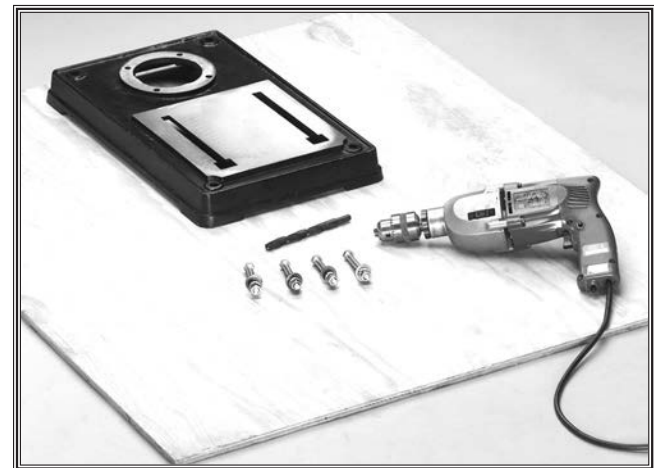

Figure 7. Secure base to 4' x 4' x 3/4" plywood.
- a. Center the drill press base along the back edge of the 4' x 4' x 3/4" sheet of plywood (see Figure 7).